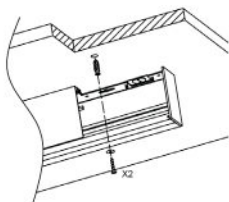

Fig. 3
2. Mount the fixture with screws and anchors (not included) through the pre-drilled holes on the top of the fixture. (Fig. 3 & 4)